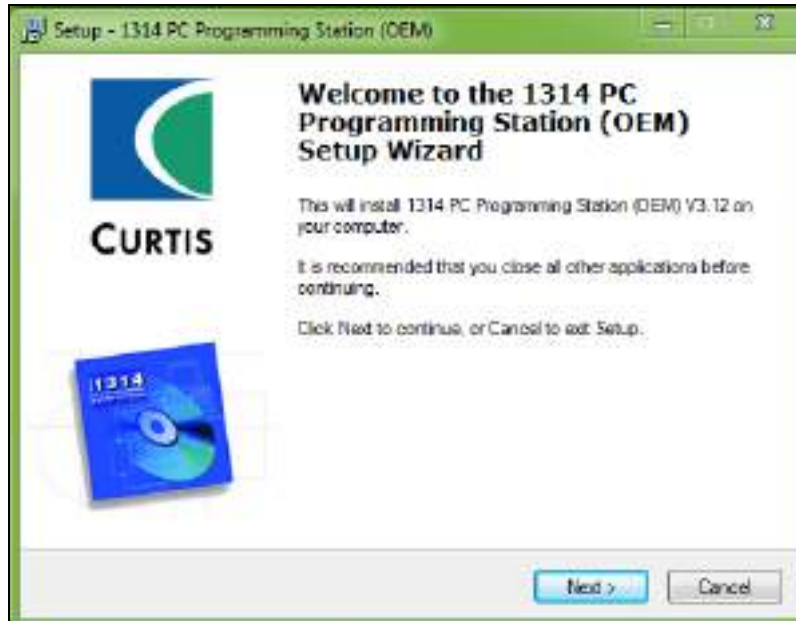
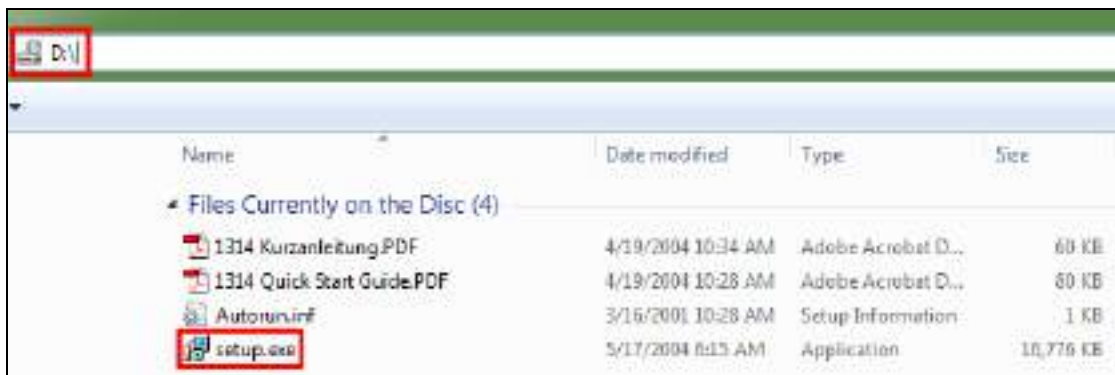

Figure 4-7: Start - Steps 1 & 2
Figure 4-8: Starting Installation Program
2. If the screen in Figure 4-7 does not automatically appear, go to your computer directory, double click your CD ROM drive (usually D:\) and double click **setup.exe** as shown in Figure 4-8. Click **[Next]**.